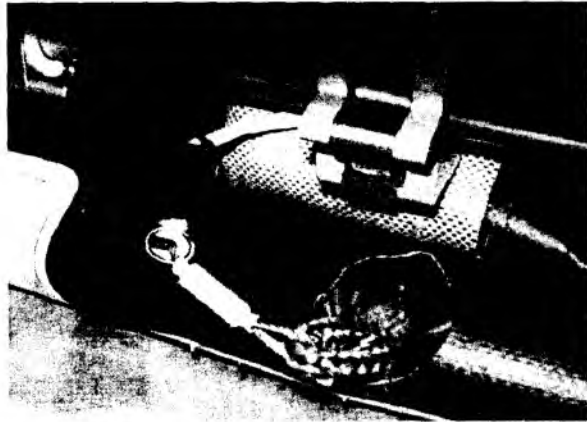

Figure 3 – The correct position of connector
7. Perform Item 4B (11) of the AMM Task 25-61-05-900-801;
8. Control the position of the quick-disconnect connector. Make sure the connector of the quick-disconnect is placed closer to the board away from the opening mechanism, as shown in Figure 3: